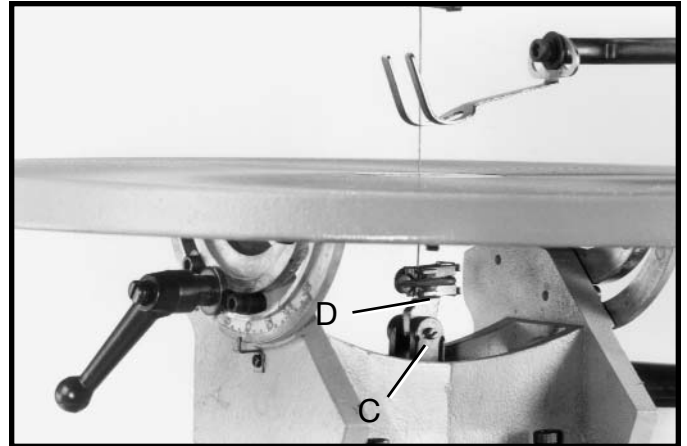

Fig. 33
4. If an alignment is necessary, rotate adjustment screw (C) Fig. 33, to move the lower blade holder (D) left or right, until the saw blade is in consistent contact with the straight edge during the entire cutting stroke.